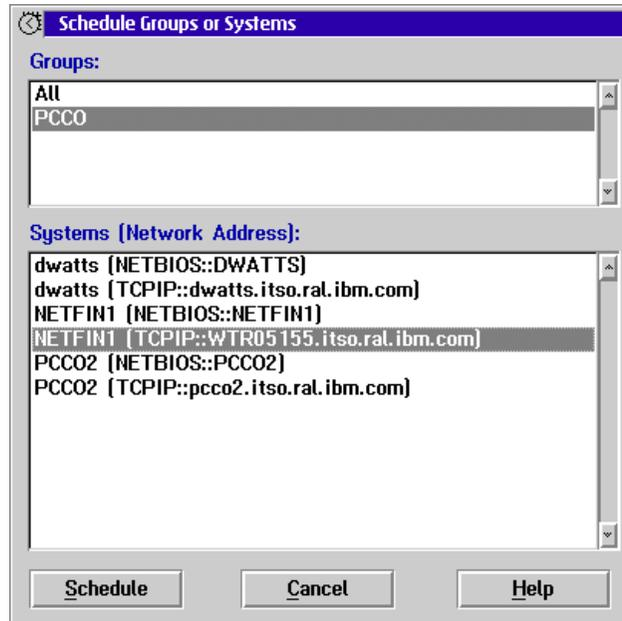
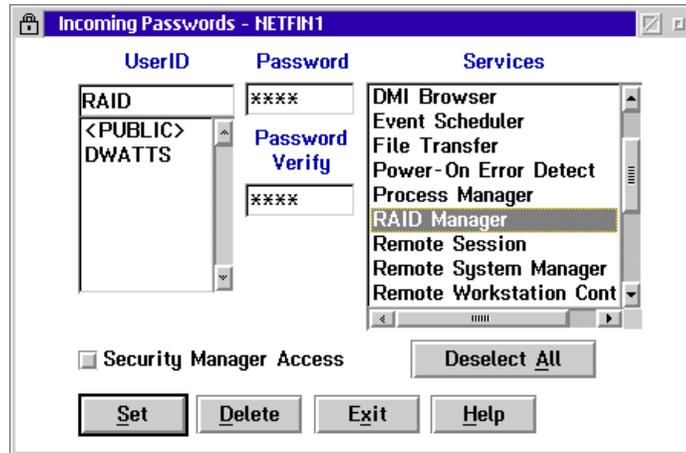

Figure 39. Selecting the System to Schedule
Figure 43. Defining Incoming Passwords
We clicked **Systems** and Figure 39 appeared:
If you are configuring the schedule on a remote system (that is, not the server you selected in Figure 39) you should also click **Retry for offline systems** to ensure network failures do not impact your RAID scrub schedule.
1. Double-click **Edit/Display Incoming Passwords**. Figure 43 appears:
2. Set up a user ID and password to allow access to the RAID Manager as shown in Figure 43. This is the service that performs the RAID scrub. Click **Set**.
4. Specify the network address of the server. Ensure the address you type in matches the network address of the server you selected in Figure 39. The user ID and password you type in must match those in Figure 43.